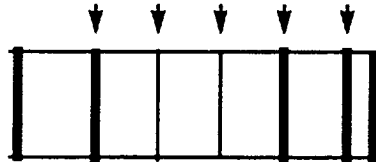

FIGURE C.28. Illustration of screen after step 6 of lesson 2.
6. Move mouse cursor outside the View Window. (See fig. C.28.)